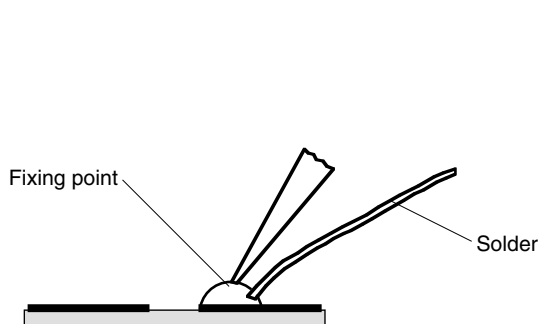

Fig. 3
3. step: Remove any remaining residues from the soldering point. Then apply a bead of solder (Fig. 3).